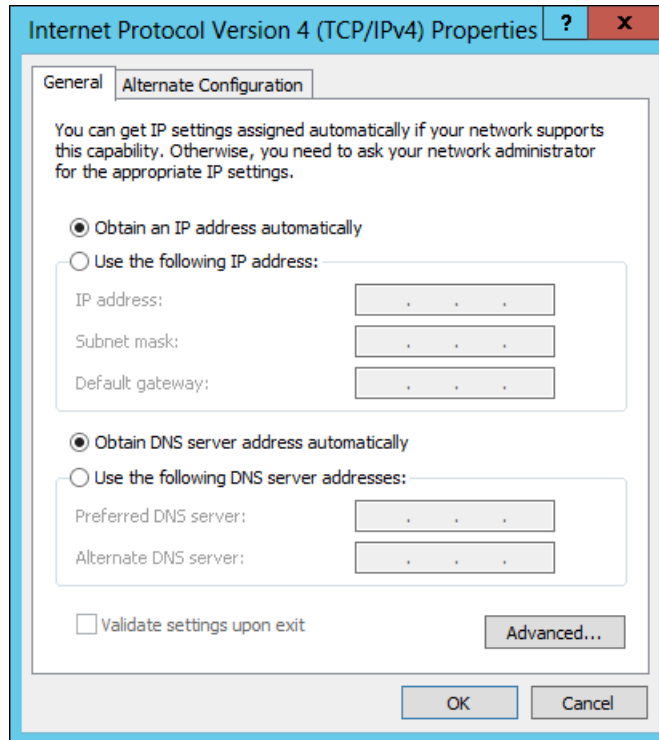

Figure 4-10 Configuring an IPv4 address in Windows 2012 R2
5. For IPv4, the window shown in Figure 4-10 on page 161 should open. To manually set the IP, select **Use the following address** and enter an IP address, Subnet mask, and Default gateway. Set the DNS server address if required. Click **OK** to confirm.